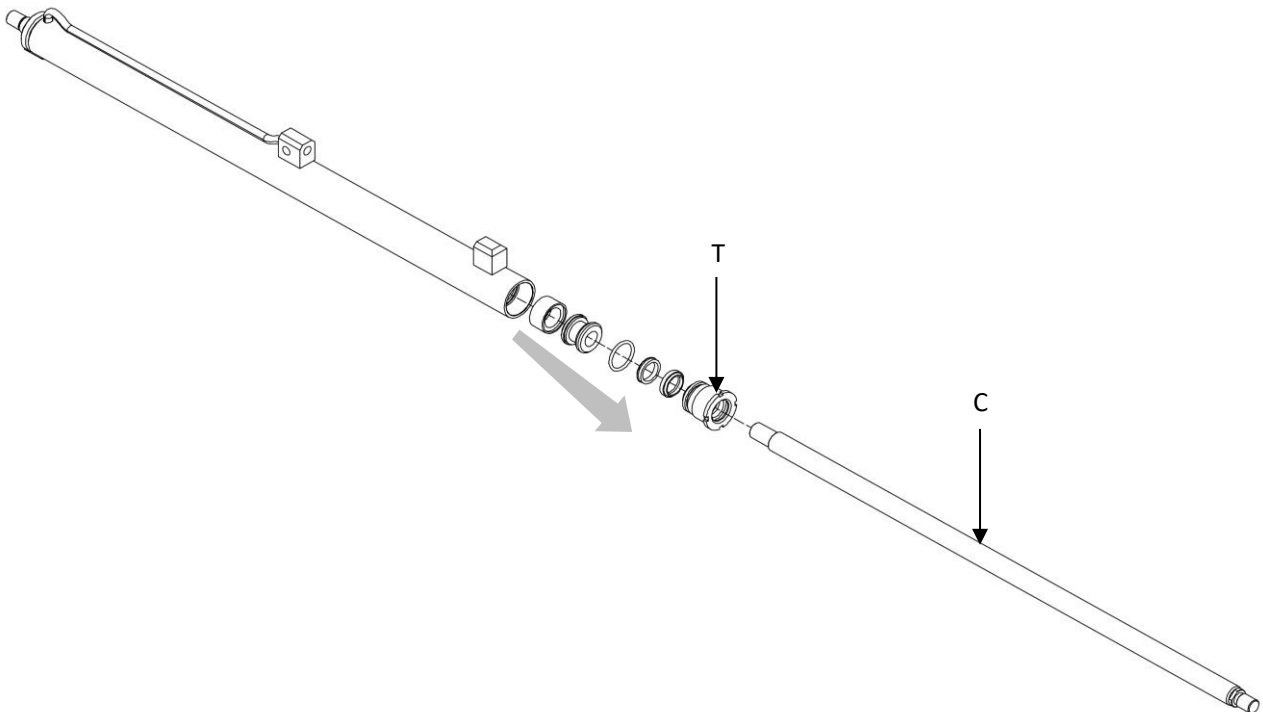

Figure 32
8. Use *Figure 32 as a guide*.